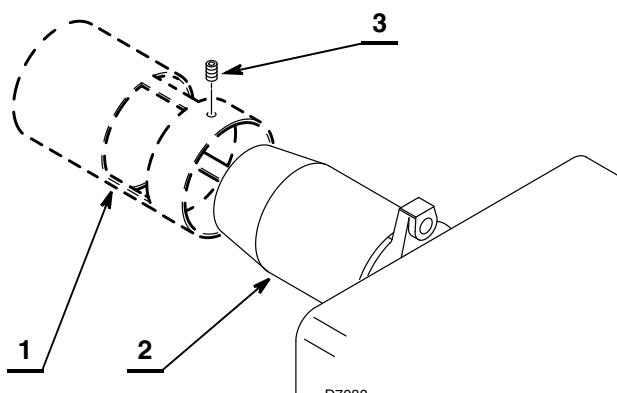

Fig. 6
- if necessary insert the recirculating pipe **1** (Fig. 6) on the burner blast tube **2** and fix it with the screw **3**.